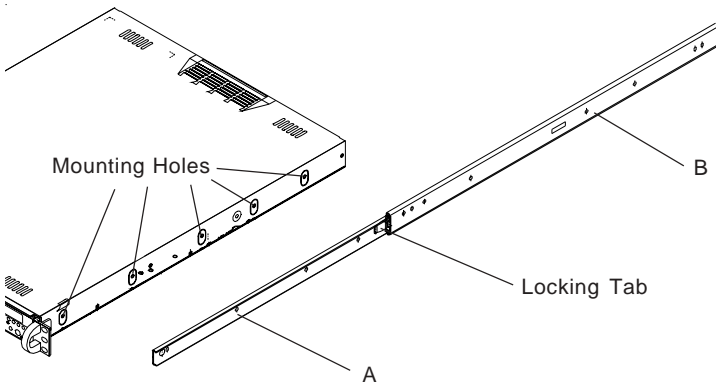

Figure 2-1. Identifying the Sections of the Rack Rails
You should have received two rack rail assemblies with the SuperServer 6012P-6. Each of these assemblies consist of three sections: an inner fixed chassis rail that secures to the 6012P-6 (A) and an outer fixed rack rail that secures directly to the rack itself (B). A sliding rail guide sandwiched between the two should remain attached to the fixed rack rail. (See Figure 2-1.) The A and B rails must be detached from each other to install.